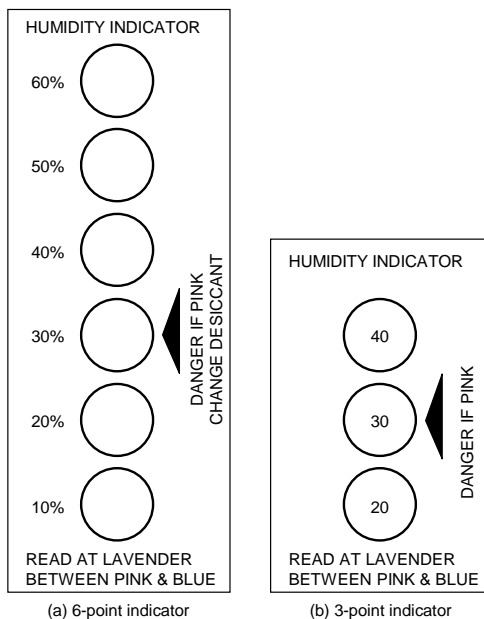

Figure 1 Humidity indicator
(1) General precautions
- If the 12-month storage period has expired, or if the 30% humidity indicator shown in Figure 1 is pink when the packing is opened, it may be advisable, depending on the device and packing type, to bake the devices at high temperature to remove any moisture. Please refer to the table below. After the pack has been opened, use the devices in a 5°C to 30°C, 60% RH environment and within the effective usage period listed on the moisture-proof package. If the effective usage period has expired, or if the packing has been stored in a high-humidity environment, bake the devices at high temperature.